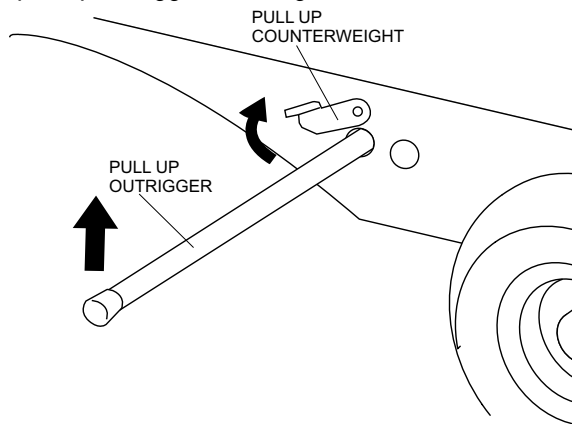

Figure 17. Stowing Outrigger
1. Pull up the counterweight to unlock the outrigger and pull up outrigger. See Figure 17.